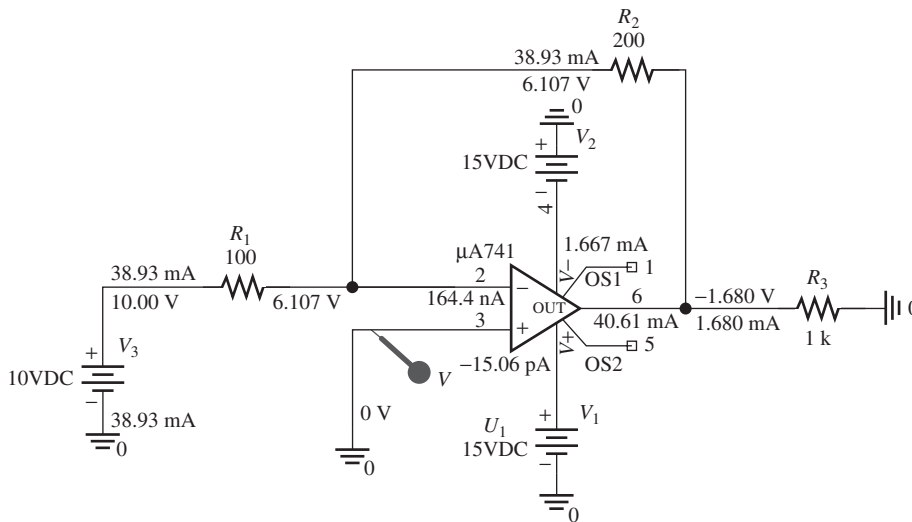

FIGURE 11.37 PSpice schematic solution for Example 11.21.
3. Set up the PSpice schematic as shown in Figure 11.37, and run the simulation as a bias point analysis. The result is shown in Figure 11.37.